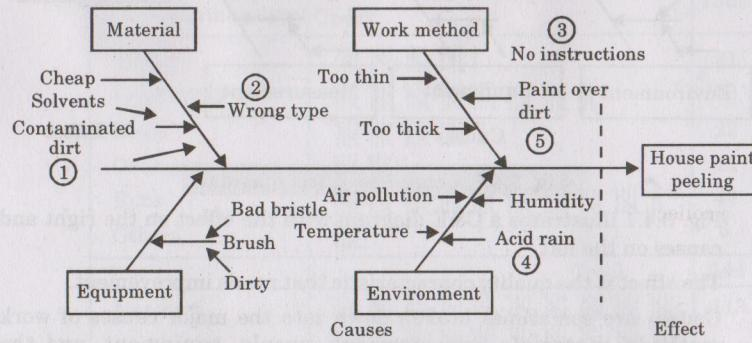

Fig. 3.4.2. Cause-and-effect diagram of house paint peeling.
10. Fig. 3.4.2 shows a C&E diagram for house paint peeling using four major causes.
20. Those causes with the most votes are circled, as shown in Fig. 3.4.2 and the four or five most likely causes of the effect are determined.